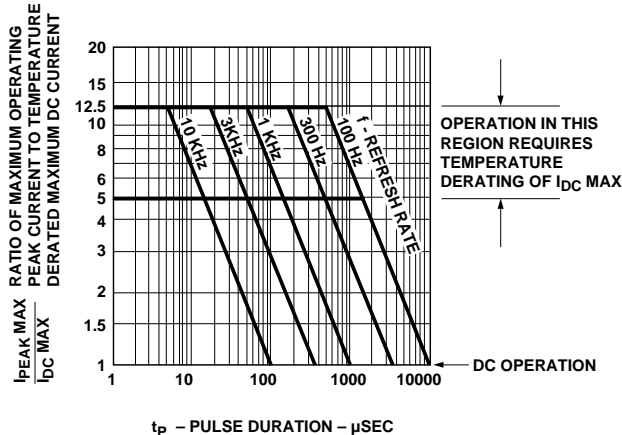

Figure 1. Maximum Tolerable Peak Current vs. Pulse Duration - Red.
- See Figure 1 to establish pulsed operating conditions. Maximum pulse width is 1.5 ms.